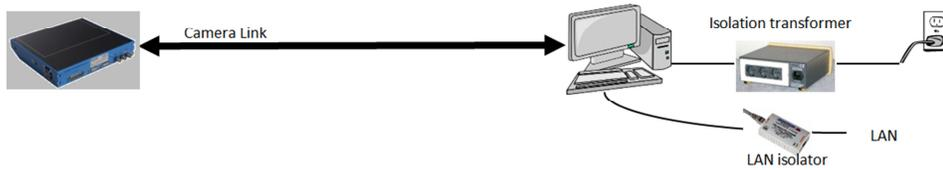

Figure 22: Mains and LAN isolation. The same applied to GigE.
- Isolation of the PC from its electrical environment (for both CL and GigE, Figure 22).